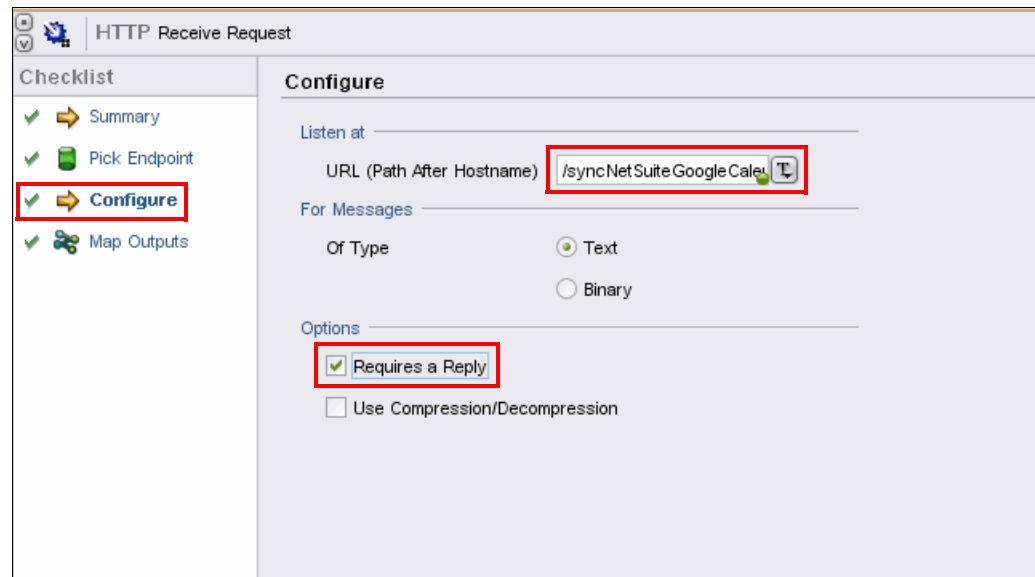

Figure 11-23 Configure details for HTTP Receive Request
8. Click **Configure** in the Checklist. Enter `/syncNetSuiteGoogleCalendar` in the text box for URL (Path After Hostname). Select the **Requires a Reply** option. Refer to Figure 11-23.